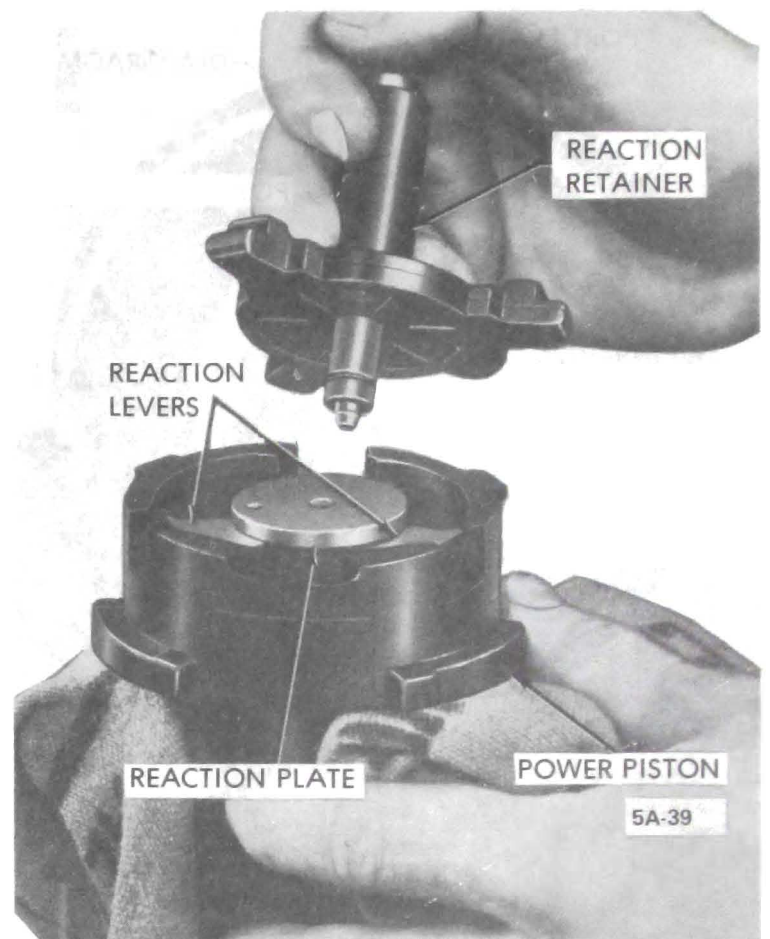

Figure 5A-39 Removing Reaction Retainer
then proceed to pull ring from under other two locking lugs on power piston. See Figure 5A-38.
4. Remove reaction retainer, piston, reaction plate, three (3) reaction levers and air valve spring. Also remove reaction bumper and air valve spring retainer from air valve. See Figure 5A-39.